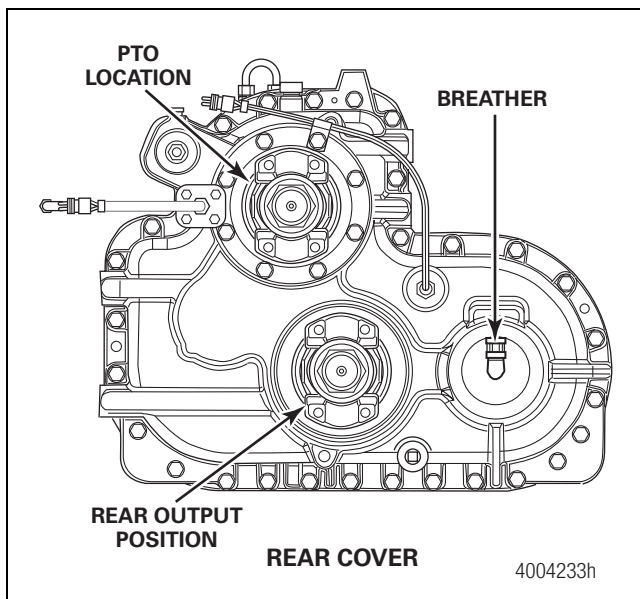

Figure 7.7
1. Connect a regulated air pressure line to the air transfer case breather. Figure 7.7.